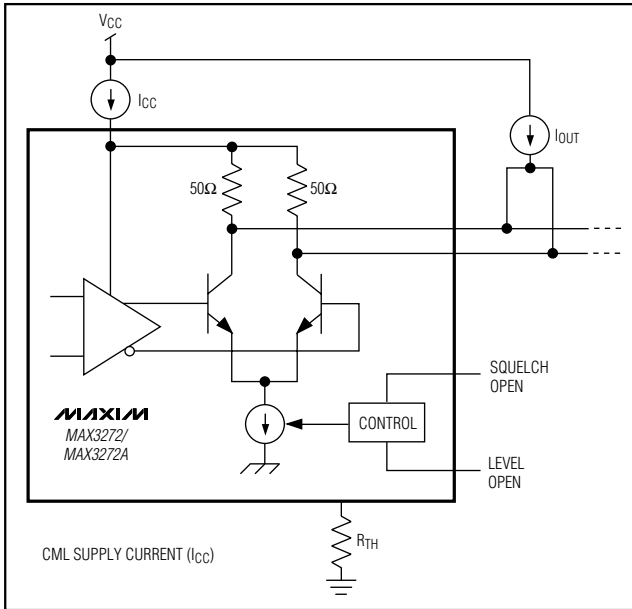

Figure 1. Power-Supply Current Measurement
- Note 2:** Supply current measurement excludes the current of the CML output stage ($16mA$ typical). See Figure 1, *Power-Supply Current Measurement*.